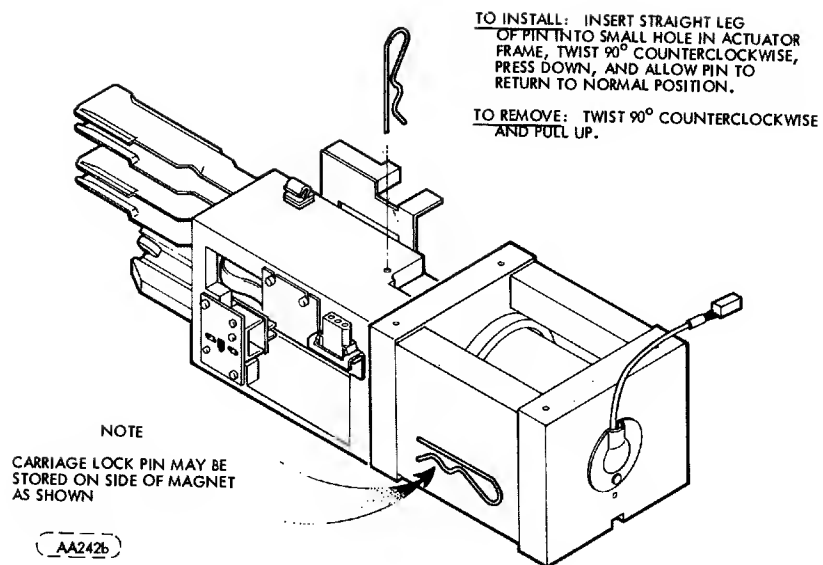

FIGURE 3-1. CARRIAGE LOCK PIN LOCATION
6. Remove the carriage lock pin and store it on the magnet as shown in Figure 3-1.